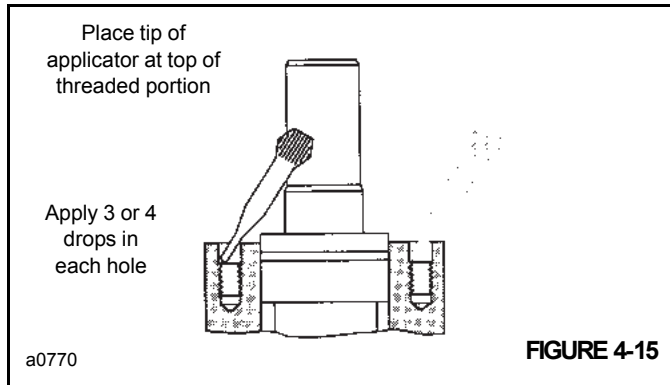

FIGURE 4-15
9. Apply 3 or 4 drops of Loctite sealant at the top of the threads for each of the four holes in the housing Figure 4-15. Do not allow parts with Loctite to come in contact with any metal parts other than those for assembly. Wipe off excess Loctite from housing face, using a non-petroleum base solvent.